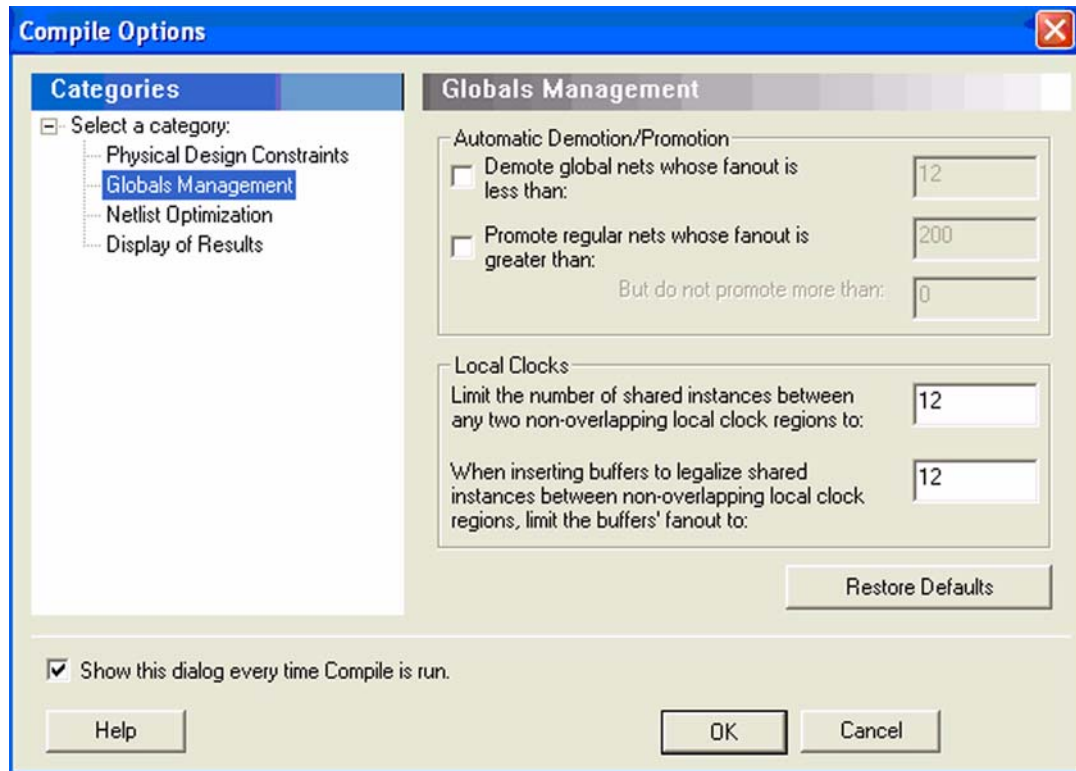

Figure 3-18 • Globals Management GUI in Designer
2. If some signals have a very high fanout and are candidates for global promotion, promote those signals to global using the compile options or PDC commands. Figure 3-18 on page 56 shows the Globals Management section of the compile options. Select **Promote regular nets whose fanout is greater than** and enter a reasonable value for fanouts.